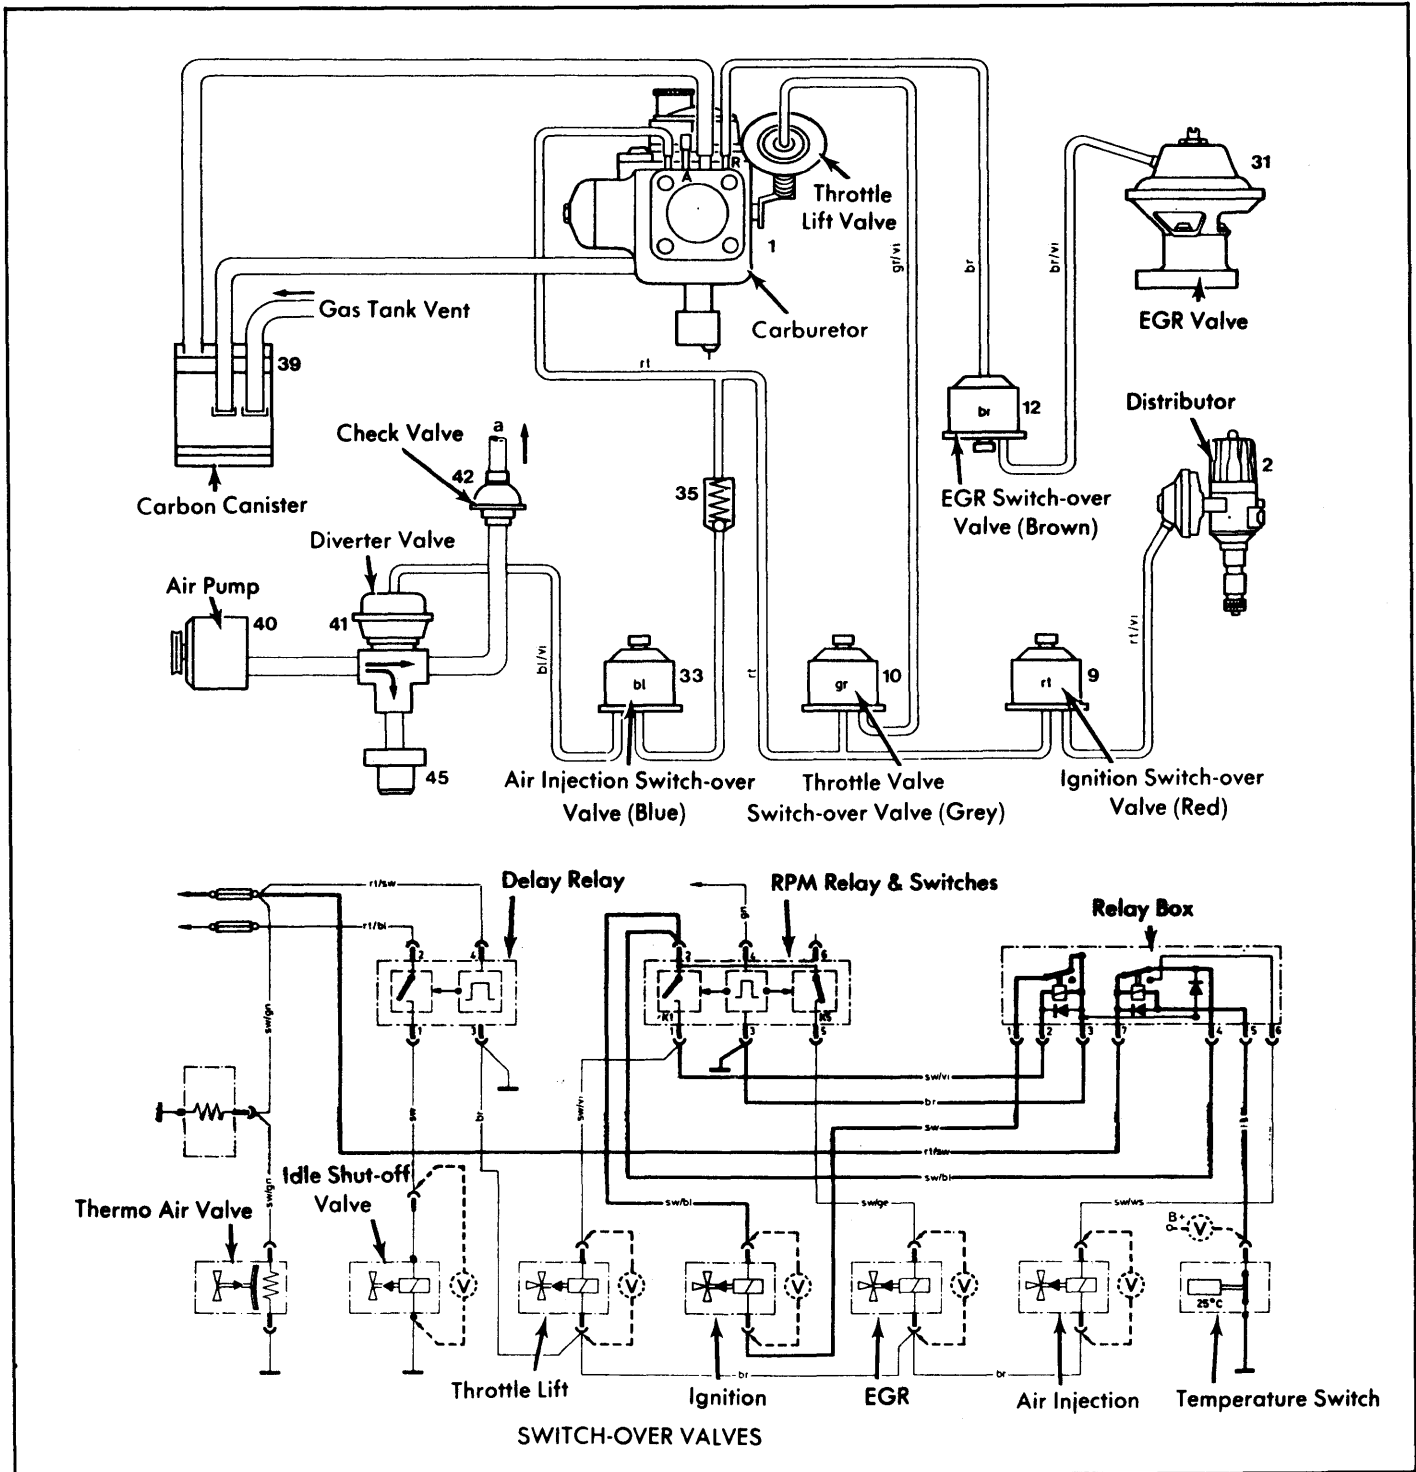

Fig. 4: 1975-76 230 Series EGR System Vacuum/Wiring Schematics
- 1975-76 230 Models** - 1) Disconnect Brown vacuum line at carburetor and Brown/Purple line at EGR valve. See Fig. 4. Blow into Brown vacuum line and simultaneously increase engine speed to 3600 RPM. At idle speed, air should pass through vacuum line. Above 3600 RPM, air should not pass through vacuum line.